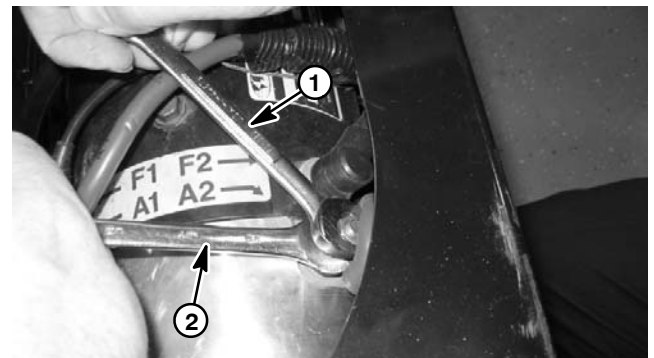

Figure 53
**IMPORTANT:** When removing wires from motor terminals (A1, A2, F1 and F2), use a wrench to retain lower nut while loosening upper nut (Fig. 53). If terminal studs are allowed to turn during upper nut removal, internal motor damage can occur.
5. Align mounting holes of motor, transaxle and transaxle mount plate. Secure motor to transaxle with six (6) socket head screws (item 1) and flat washers (item 2).
**IMPORTANT: When connecting wires to motor terminals (A1, A2, F1 and F2), use a wrench to retain lower nut while tightening upper nut (Fig. 53). If terminal studs are allowed to turn during upper nut installation, internal motor damage can occur.**